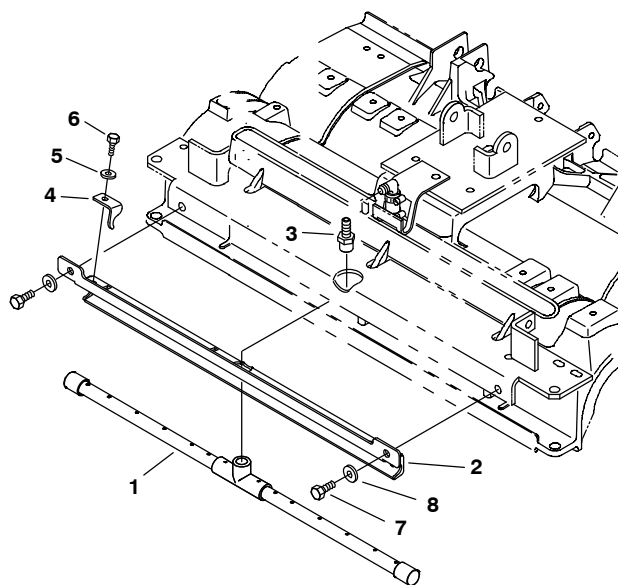

Fig. 45
4. Attach the *ec*-H₂O spray bar assembly to scrubhead as shown (Figure 45).
ec-H₂O Spray Bar Assembly Parts List (Figure 45)